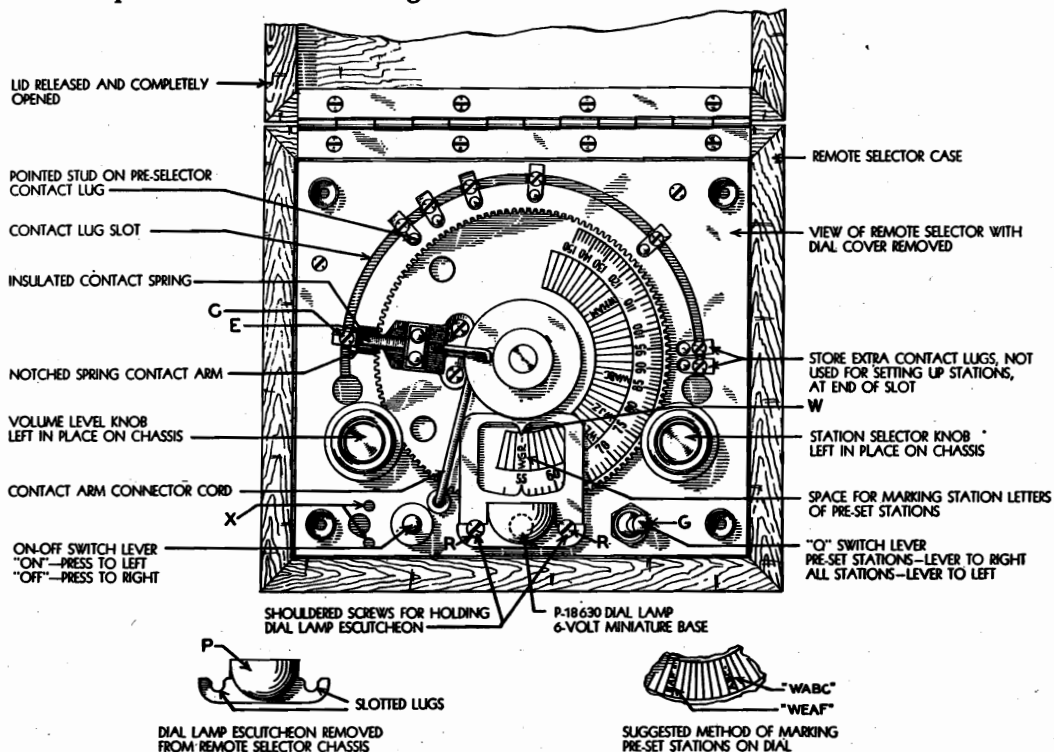

Fig. 7. Remote Selector Unit of No. 55 Te-lek-tor-et with Dial Cover removed for setting Pre-Selector Mechanism.
- Fifth**—With a small screwdriver, loosen Pre-Selector Contact Lug Screw "C", Fig. 7, of the first lug in the left hand end of the Contact Lug Slot, about one-half turn. This will allow the pointed end of stud of the first lug to be moved directly under and into the notch in the Contact Arm "E". Allow the Te-lek-tor-et Receiver to remain turned on for a period of at least 15 minutes before making a final setting of the contact points. This will insure correct temperature adjustment of the thermostatic control.
- Seventh**—Set Contact Lug Screws "C", Fig. 7, tight, taking care not to disturb the accurate setting previously obtained. Check sharpness of tuning, after setting screw "C" as described in the previous paragraph. When making this check, have the "Q" Switch Lever "G", Fig. 7, in the right hand position so as to be sure that the electrical circuit is completed through contact arm "E" and pointed stud on contact lug.
Ninth—Now, mark the station letters of the pre-selected stations only, in the white space provided on the Selector Dial, placing a dot on the dial directly in line with the upper pointer "W", Fig. 7, when the station is accurately tuned. Use a soft lead pencil and arrange letters as shown in lower view of Fig. 7. Leave off the first letter of four letter stations, for better legibility. Use a damp cloth for removing pencil markings on the dial.